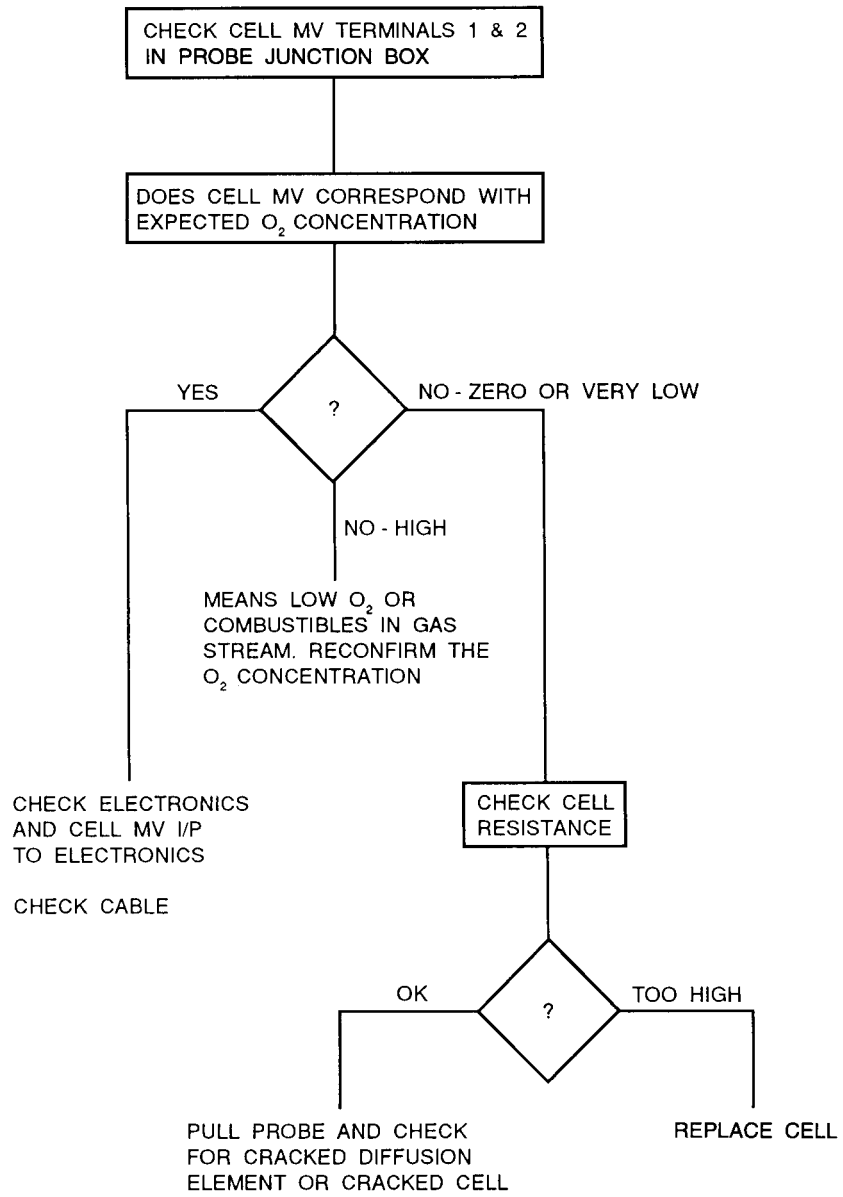

Figure 2-1. Flowchart of Probe Related Problems, #1
c. Figures 2-1 and 2-2 provide an alternate approach to finding probe related problems.